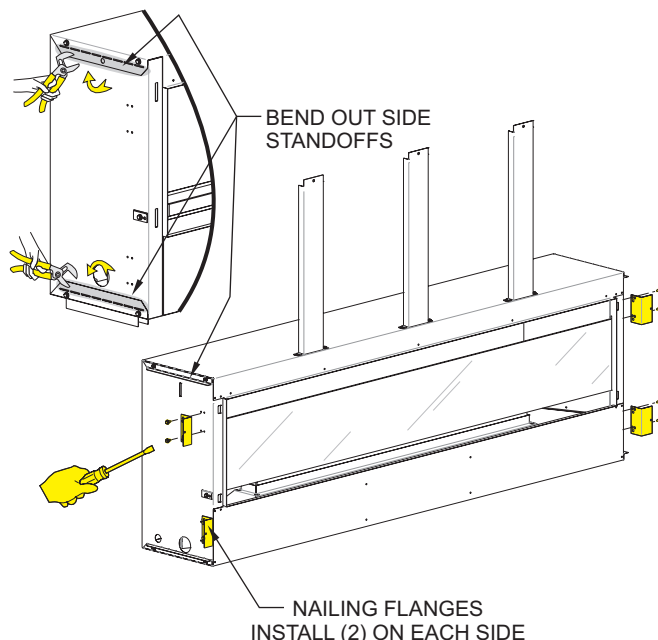

Figure 37
4. On the top and bottom of each side are side framing standoffs. Use pliers to bend the side framing standoff 90 degrees away from the cabinet. See Figure 37.
5. Locate nailing flanges in the envelope pack. The holes in the nailing flanges allow different size boards and different locations for the boards. See Figure 37. Bend the brackets at 90° angles. Install four nailing flanges with two 10 x 1/2 screws (each). See Figure 37. The hole closer to the front edge of the fireplace is for Installation Option 1. The other hole is for Installation Option 2. Notice: The non-combustible board provided is 1/2-inch thick.